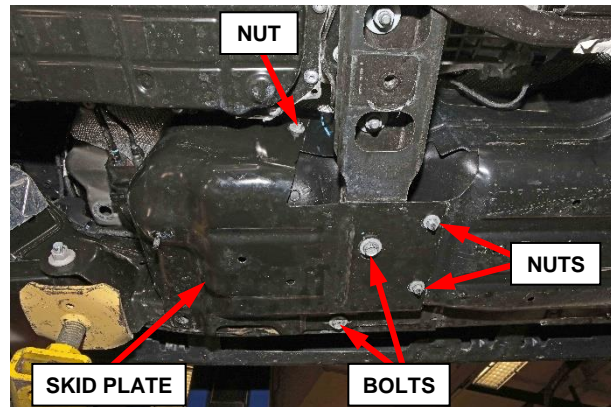

Figure 4 – Fuel Tank Front Skid Plate
4. Remove the fasteners, two bolts and three nuts securing the fuel tank front skid plate then remove the skid plate from the vehicle (Figure 4).
6. Position the fuel tank front skid plate to the vehicle then install and tighten the fasteners, two bolts and three nuts (Figure 4).
4. Position the fuel tank front skid plate to the vehicle then install and tighten the fasteners, two bolts and three nuts (Figure 4).